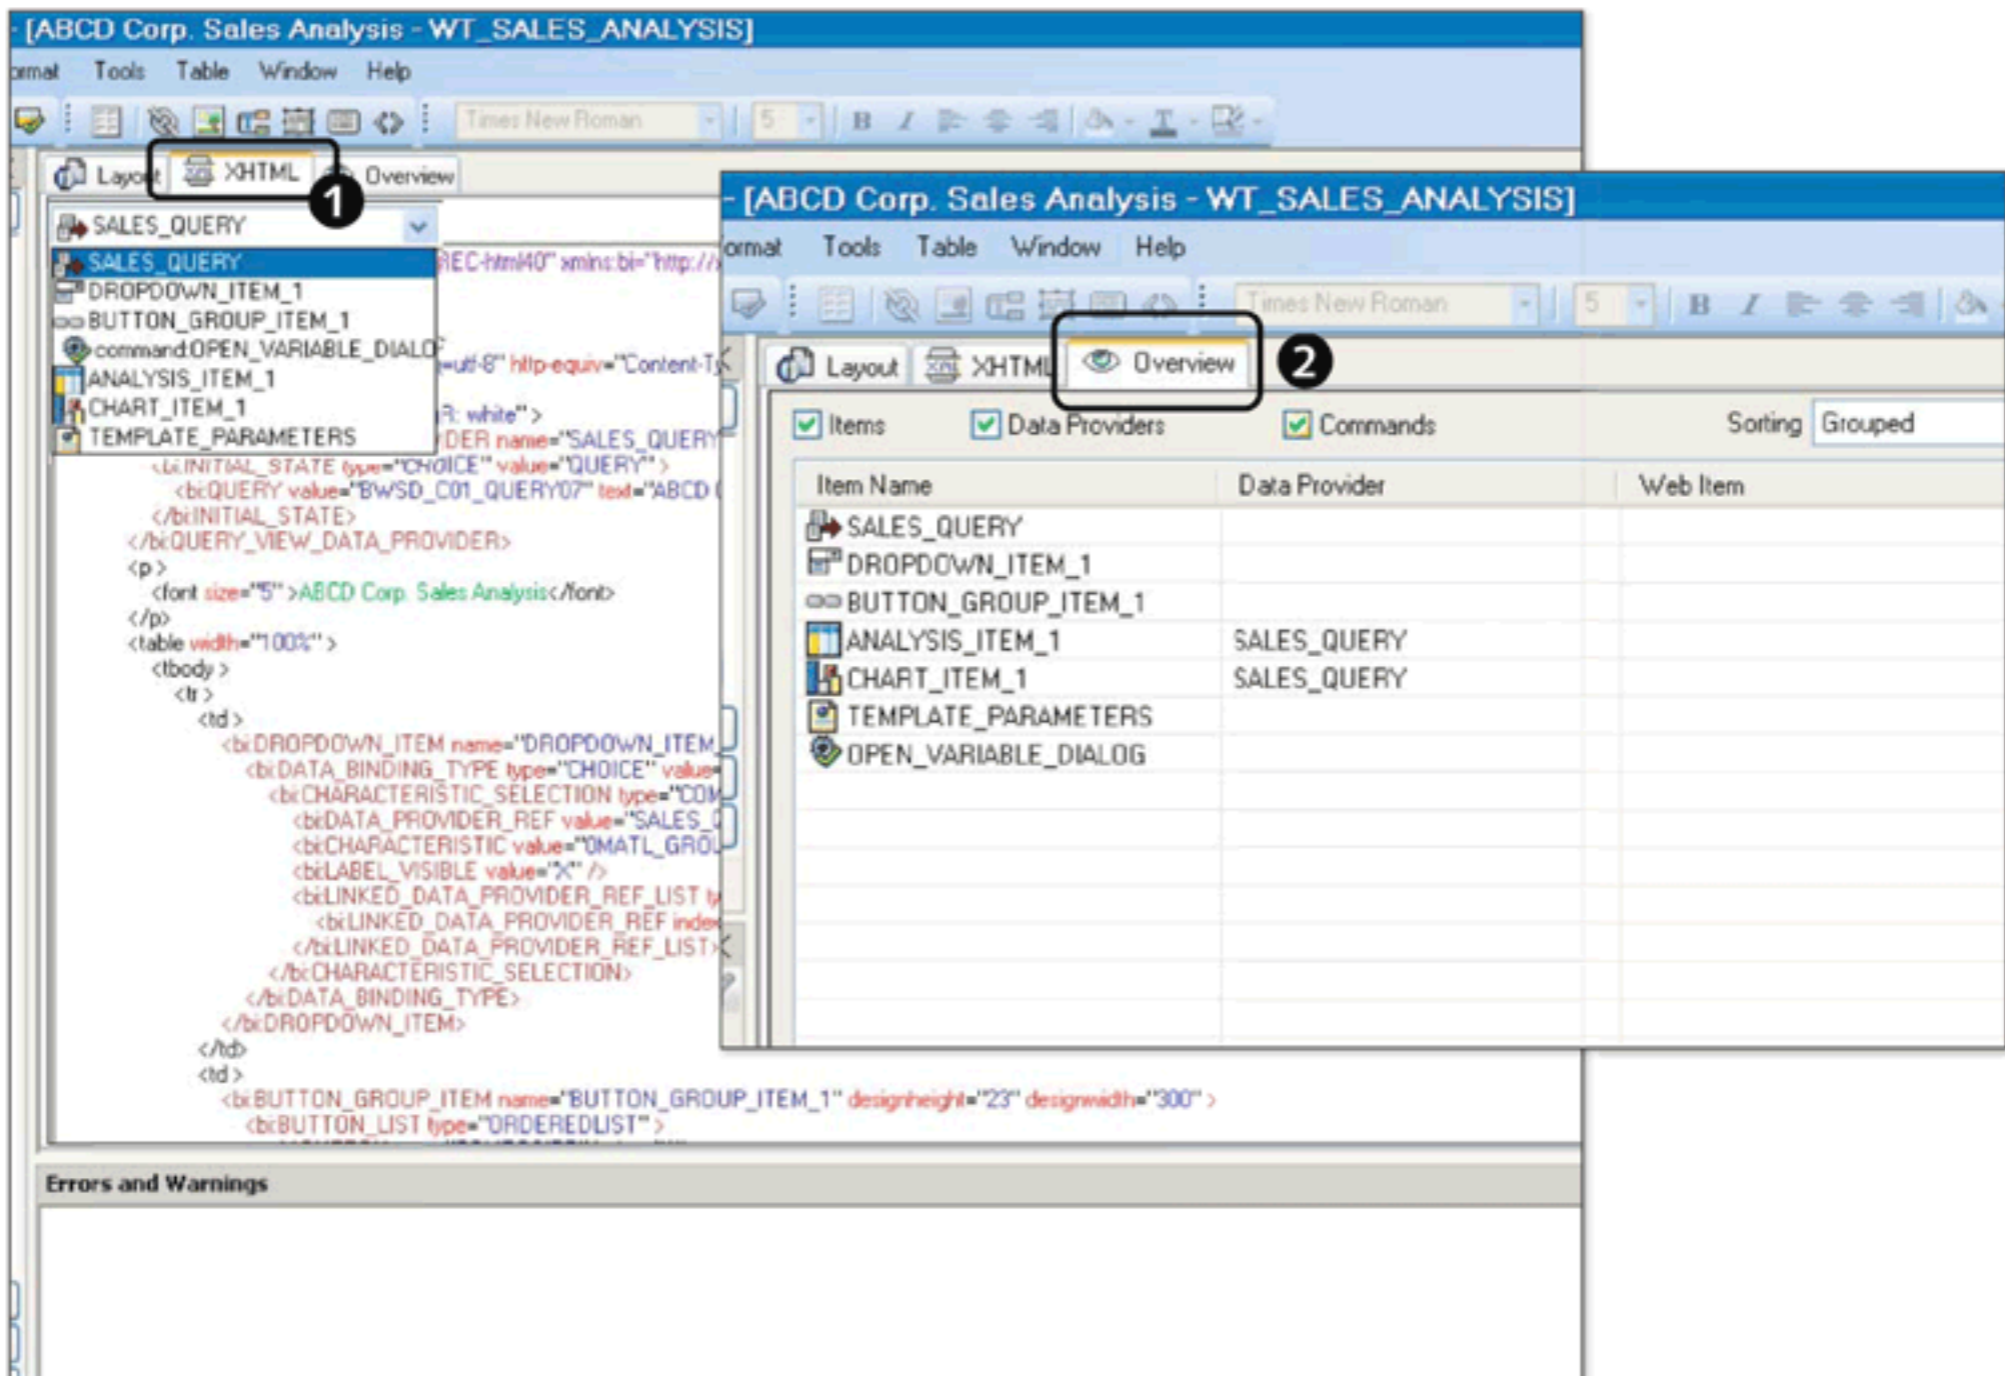

Figure 11.18 XHTML Tab and Overview Tab
As you create the web template using different web items in the layout, the XHTML code is updated for all of the settings and configurations made to the web items. The XHTML code can be seen on the XHTML tab page (❶ of Figure 11.18). You can jump to the code relevant for a specific web item by selecting that web item from the dropdown.